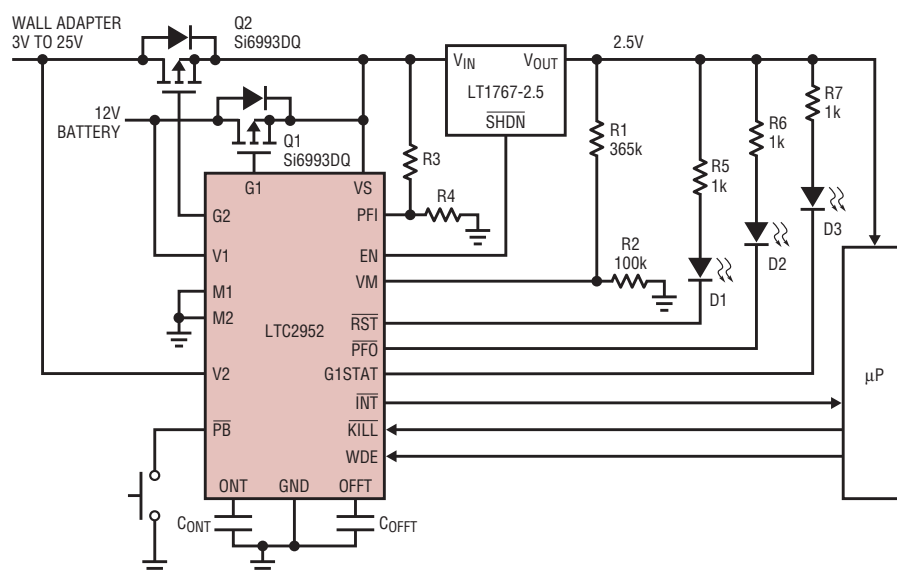

Figure 1. Typical application of LTC2952 with automatic power-ORing between wall adapter and battery and pushbutton control of a DC/DC converter
The LTC2952 is designed to simplify applications requiring management of multiple power sources. The three main features of the part are: pushbutton control, ideal diode PowerPaths and system monitoring. Figure 1 shows a typical application of the LTC2952 where it drives the output voltage (VS) to the higher of the V1 (wall adapter) or V2 (battery) inputs.